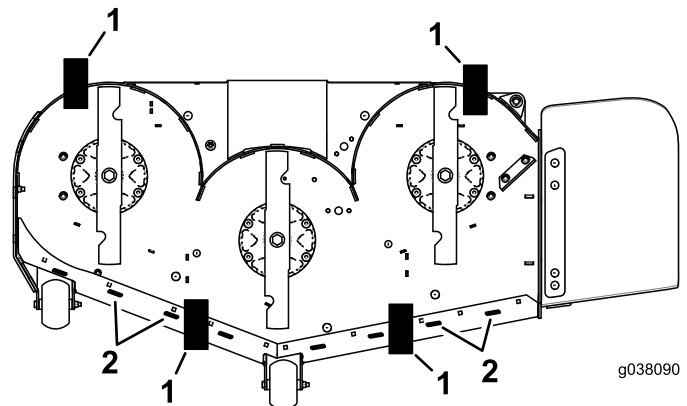

Figure 99
11. Place 2 blocks (see Block Height and Rake Table) under the rear edge of the cutting deck skirt; 1 on each side of the cutting deck (Figure 99).